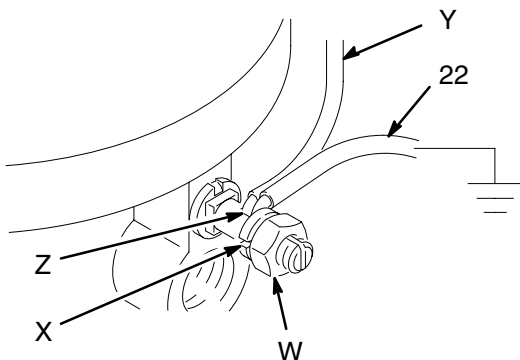

Fig. 1
1. *Pump*: use the ground wire and clamp (supplied). See Fig. 1. Loosen the grounding lug locknut (W) and washer (X). Insert one end of the ground wire (22) into the slot in lug (Z) and tighten the locknut securely. Connect the other end of the wire to a true earth ground.
2. *Electrostatic Spray Gun*: obtain grounding through connection to a properly grounded air supply hose. Use only the Graco Electrically Conductive Air Supply Hose (supplied). Connect the air hose ground wire (Y) and the pump ground wire (22) to the grounding lug as shown in Fig. 1, then connect the other end of the pump ground wire to a true earth ground.